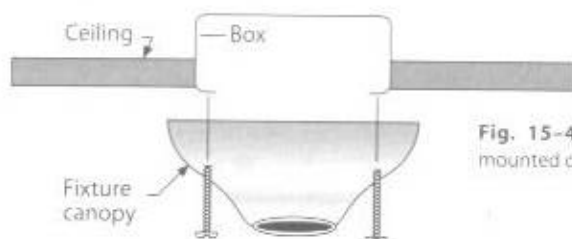

Fig. 15-4 Small fixtures can be mounted directly on the outlet box.
**Mounting on boxes** The NEC requires that all fixtures be mounted on outlet boxes. Very simple small fixtures can be mounted directly on the boxes using screws supplied with the fixture (see Fig. 15-4). Somewhat larger fixtures often use a special strap supplied with the fixture. This method is shown in Figs. 15-5 and 15-6. Surface-mounted fluorescent fixtures may have a cable or conduit enter the end of the fixture, and suspended fixtures may be cord- and plug-connected to a receptacle in a ceiling box.